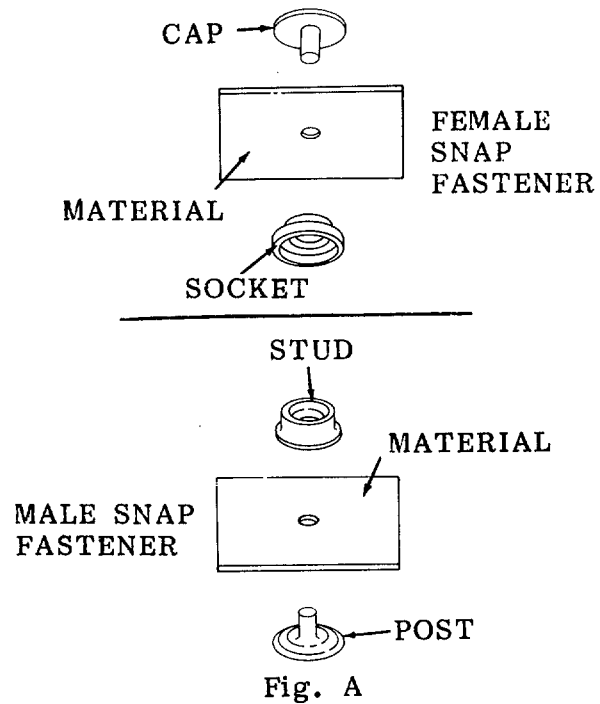

Figure 2-56. Snap Fastener, Installation.
d. Inserting Snap Fastener Set in Chuck and Die. A snap fastener set consists of a socket assembly (female portion) and a stud assembly (male portion) as shown in Figure 2-56. The female portion consists of a socket (or cap) and a clinch plate (or socket). The male portion consists of a stud and a washer (or post) depending upon the style of the snap fastener set. Either the female portion or the male portion may be installed or fastened in material separately or independently of the other portion.
- (1) To install the female portion insert or snap the appropriate socket (or cap) firmly into the chuck. The socket should fit snugly in the chuck. Place the appropriate clinch plate (or socket) in the die so the prongs on the clinch plate point upward.
- (2) To install the male portion insert or snap the appropriate stud up into the chuck. Place appropriate washer (or post) in the die.